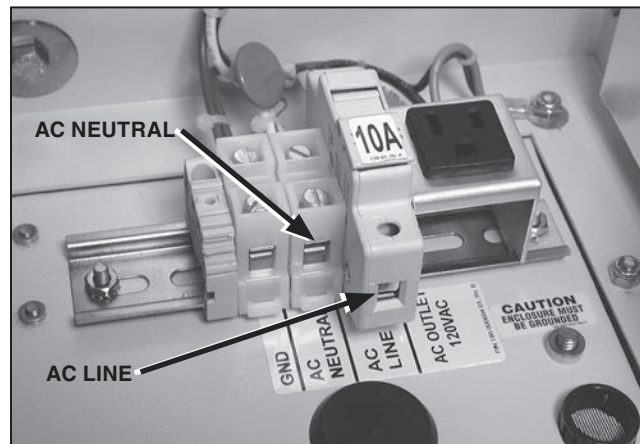

Figure 2. Test points for the ac line fuse and ac neutral connections.
- STEP 1.** Check for ac power to the switch control. Check for ac voltage between the incoming-side test point of the ac line fuse holder and the ac neutral. See Figure 2.
- STEP 3.** Check the ac line and ac neutral wiring connections. Make sure the ac line wire is securely connected to the bottom of the ac line fuse holder. Make sure the ac neutral wire is securely connected to the ac neutral connection. See Figure 2.